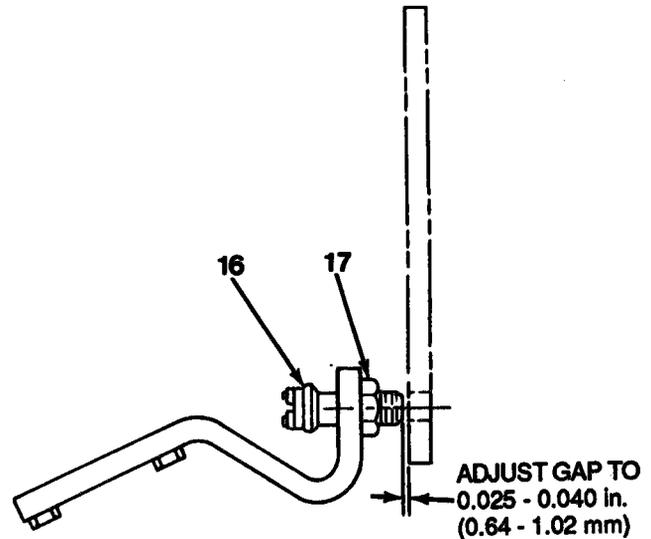

Figure 17-7
3. Loosen jam nut (17) on sensor (16, Figure 17-7). Using a feeler gauge, adjust sensor (16) so the gap between sensor (16) and parking brake disc measures 0.025 to 0.040 in. (0.64 to 1.02 mm). Tighten jam nut (17).